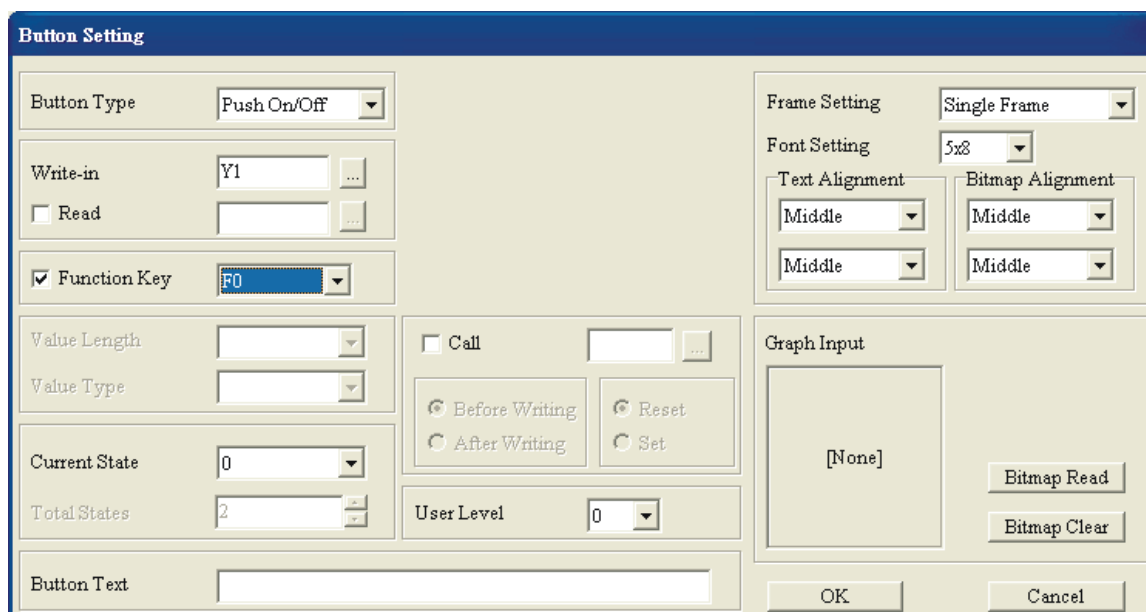

Figure 3-9
Step 4. Double click the square  and the following Button Setting tab (Figure 3-9) will display.